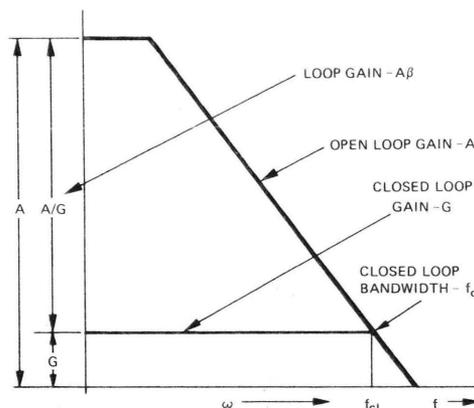
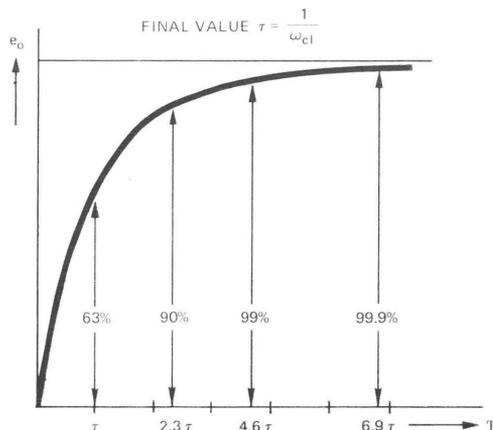
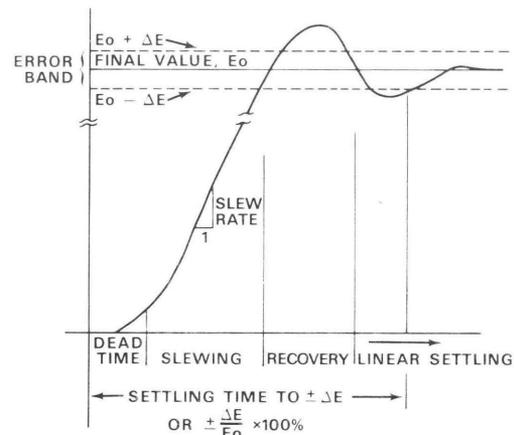

Figure 4. Closed Loop Bandwidth and Loop Gain
Figure 5. Step Response for Linear 6dB/Octave Amplifier
Figure 6. Typical Settling Time Characteristics
2. *What closed loop gain and bandwidth are required?* Closed loop gain, G , is dictated by the application. To a first approximation the intersection of the open and closed loop gain curves in Figure 4 gives the closed loop bandwidth, f_{cl} (-3dB). For high gain, wideband requirements, it may be necessary, or more economical, to use two amplifiers in cascade each at lower gain.
range of frequencies is very often more important than closed loop bandwidth in selecting an amplifier. Loop gain as illustrated in Figure 4, is defined as the difference, in dB, or as the ratio, arithmetically, of the open to closed loop gain ($A\beta = A/G$). You will find in most of the equations defining the closed loop characteristic of a feedback amplifier that the loop gain ($A\beta$) is the determining factor in performance. Some of the more notable examples of this point are as follows:
The time and frequency response of a linear, bilateral network or amplifier are related by well known mathematics. For example, the step response for a well behaved, linear, 6dB/octave amplifier with a closed loop bandwidth of ω_{cl} is shown in Figure 5.
To a first approximation, the curve in Figure 5 can be used to relate settling time to closed loop bandwidth of Figure 4. *Settling time* is defined as the time elapsed from the application of a perfect step input to the time when the amplifier output has entered and remained within a specified error band symmetrical about the final value (Figure 6). Settling time therefore includes the time required for the amplifier to slew from the initial value, recover from slew rate limited overload, and settle to a given error in the linear range.